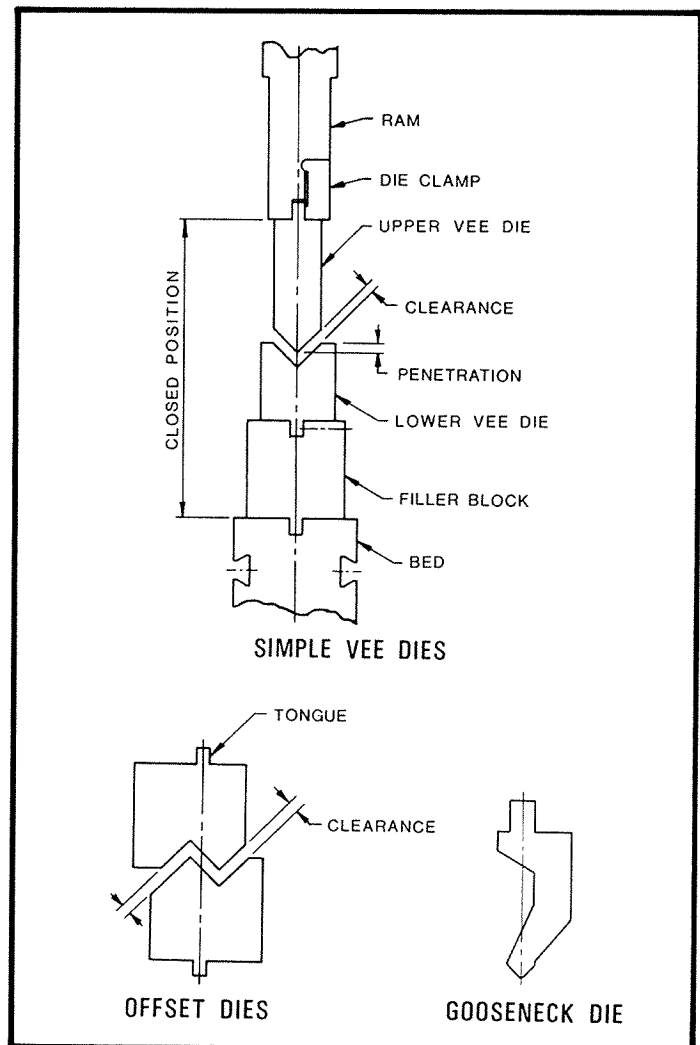

FIGURE 58
The type and shape of dies are the principle factors in establishing the shape of the part to be formed. There are many different types and shapes of press brake dies. Some have a very special and unique shape. However, most dies are members of a family of tooling called Vee Dies. See Figure 58. These dies, being the most common, will be referred to in the following instructions.
9. Be sure the dies have metal "clearance" as shown in Figure 58.